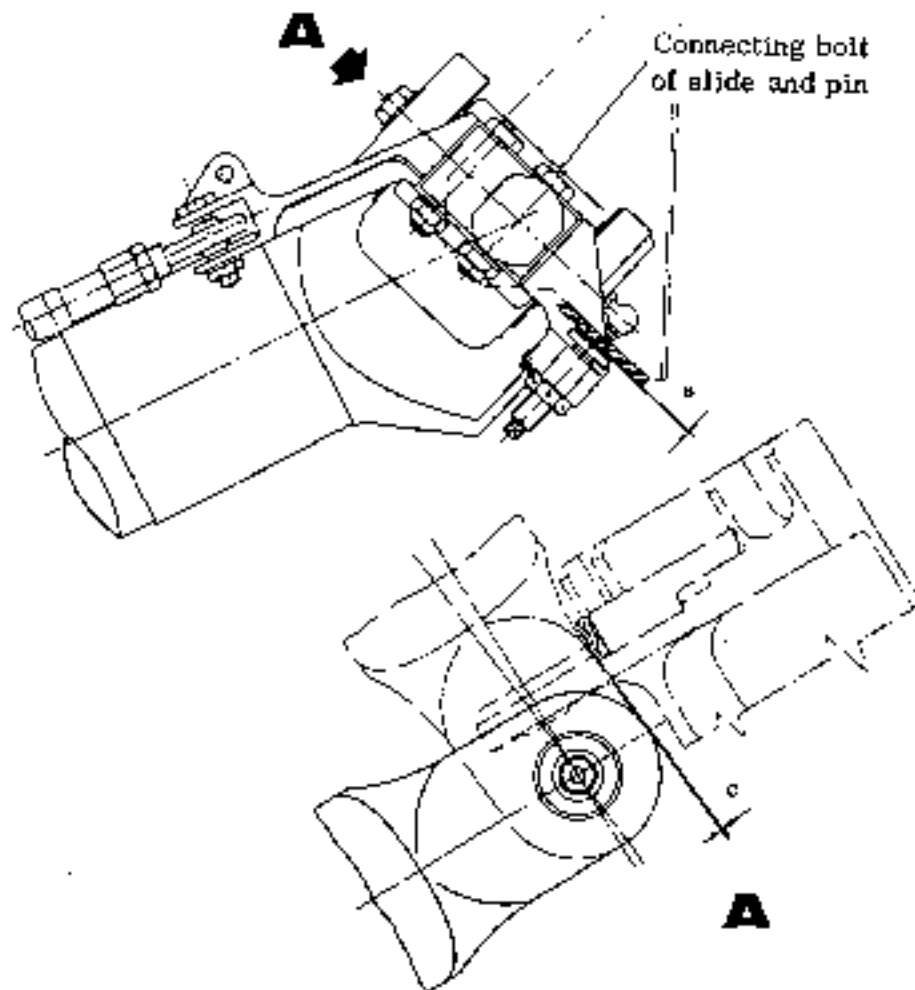

Fig. 4-25
- Remove connecting bolt (see Fig 4-25) of slide and pin, and remove attaching pin of airframe by tapping (see Fig 4-23). Tighten bolt to a torque of 160 to 190 in-lbs (184 to 219 kg-cm) when installing.
- (1) Check bolts, washers, nuts and pins for distortion and cracks.
- (2) When installing pins and bolts, lubricate all parts which require lubrication.
- (3) Adjust drag strut length to the same dimension as that measured at the time of removal.
- (4) With main gear in extended position (drag strut thread length 0.67 to 0.98 in. (17 to 25 mm), adjust clearance "E" in Fig.4-25 to 0.012 ± 0.004 in. (0.3 ± 0.1 mm) when oleo strut is fully extended.
- (6) Make sure that clearance "C" in Fig.4-25 is 0.02 to 0.04 in. (0.5 to 1 mm) with main gear in retracted position (drag strut thread length 17.64 ± 0.04 in. (448 ± 1 mm)). If necessary, adjust by scraping phenolic pad.